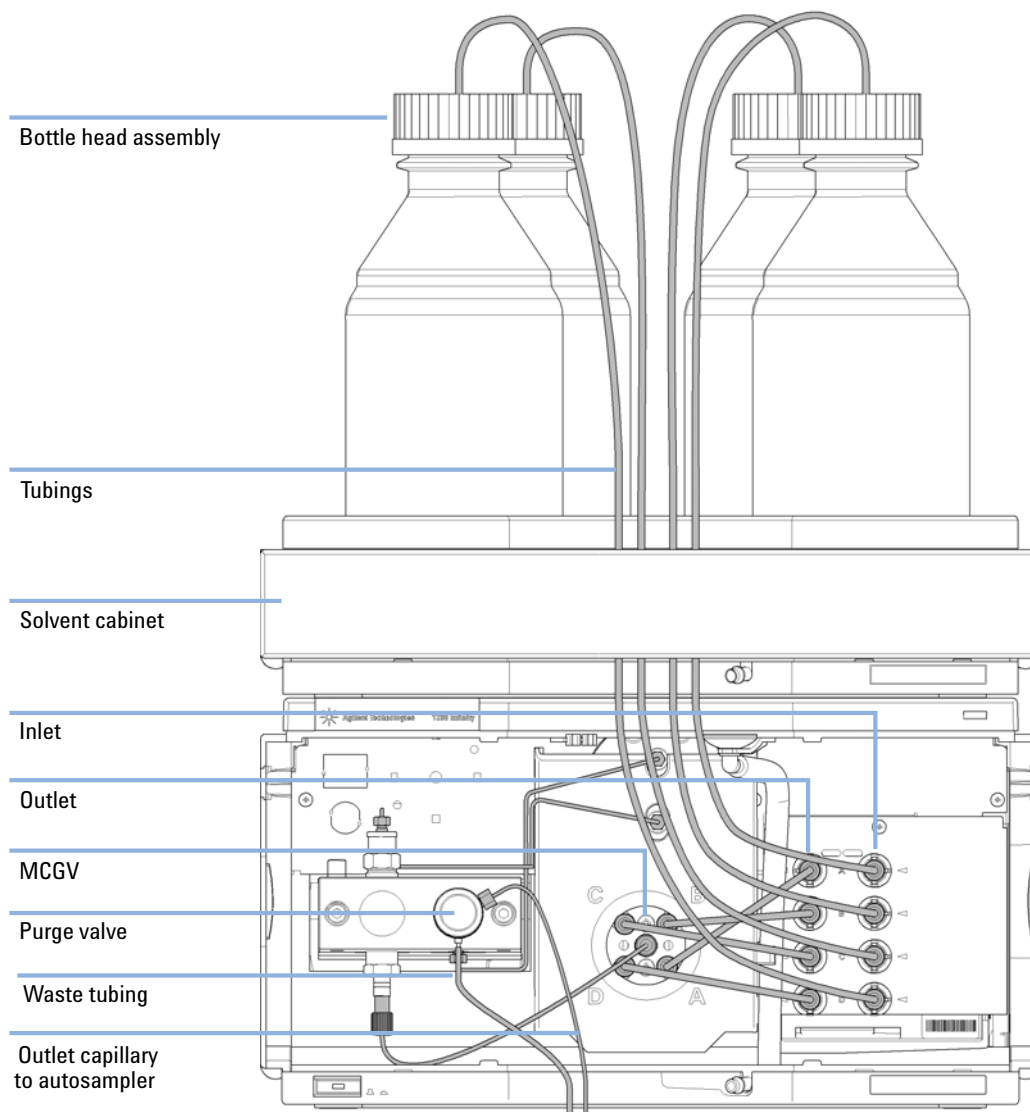

Figure 11 Flow Connections of the Quaternary Pump
- 4 Connect the inlet tubes from the bottle-head assemblies to the inlet connectors A to D at the right hand side of the vacuum degasser, see Figure 11 on page 46. Fix the tubes in the tube clips of the pump.